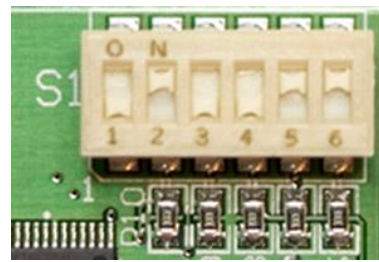

Figure 2: Typical dip switch configuration for the Apple1 and Replica1 computers.
5. Configure dip switch S1 on the CFFA1 (upper right corner) for your computer. Table 1 gives the meaning of each switch. Figure 2 shows the typical configuration for the Apple1 and Replica1 computers. Note: Mimeo1 and Obtronix Apple1 clones should use the Apple1 settings.